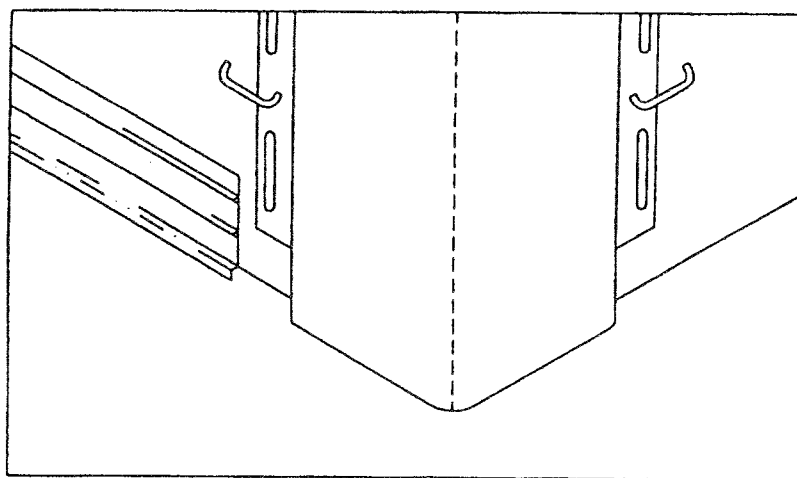

FIG. 2
- A. Secure posts by fastening tightly at 6" - 8" intervals through the material if using a staple gun or nail slots if using nails. (See Figure 2)